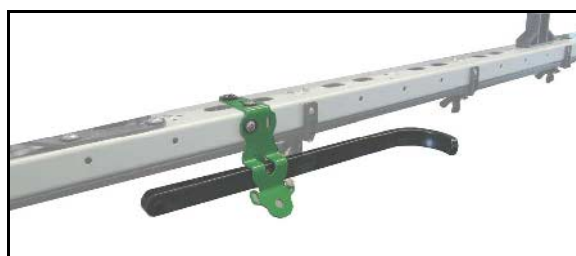

Fig. 95
Unlocking the swing compensation (Fig. 95/1):
- The swing compensation (Fig. 95/1) unlocks and the unfolded sprayer boom can swing free opposite the boom frame. For illustration purposes, in this image the protective device has been removed from the swing compensation.
Locking the swing compensation (Fig. 95/2):
- The swing compensation (Fig. 95/2) is locked when the closed lock symbol appears in the control terminal display.